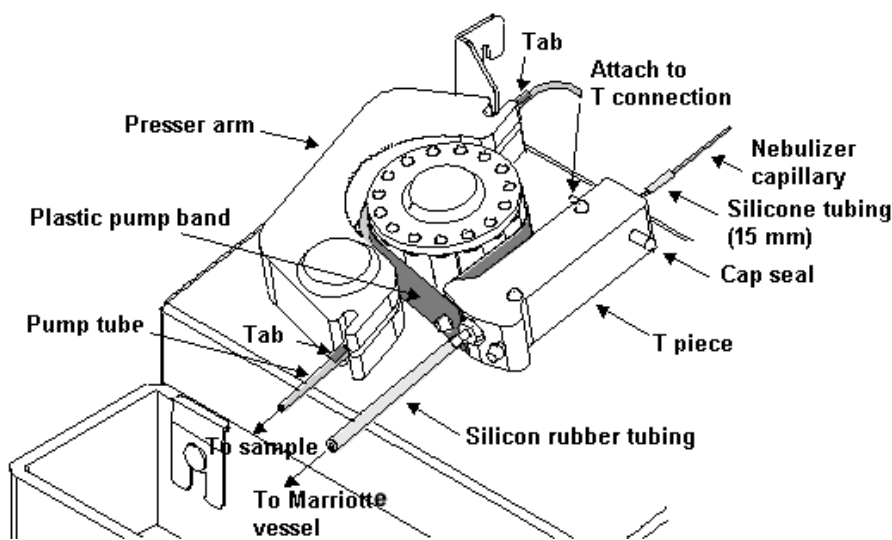

Figure 4 Installing the pump band and tubing on the SIPS 10/20
- 3 Anchor both ends of the band (attaching the right end first) to the small post located on the left side of the T-piece, as shown in Figure 4.
Attach a piece of silicon rubber diluent tubing (supplied with the SIPS) between the barbed tube at the bottom of the T-piece (see Figure 4) and the lid of the Mariotte vessel. Ensure the tubing is long enough to avoid kinks or sharp bends.
Use a 15-mm piece of silicone tubing (1 mm ID) as supplied with the SIPS, to connect the upper end of the T-piece to a length of capillary tubing leading from the nebulizer (as shown in Figure 4). The length of capillary used should be as short as possible. Ensure that there is no gap between the two ends of the tubing.
- 7 Hook the tube into the rear slot in the presser arm using the other orange tab to hold it in place as shown in Figure 4.